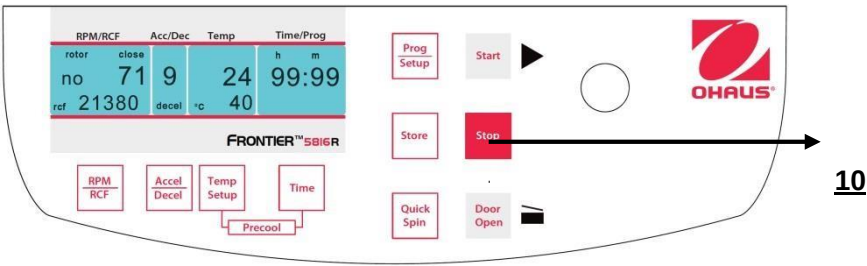

Figure. 30
By the "Stop" key (10) (See figure 30) you can interrupt the run at any time. After pressing the key the centrifuge decelerates with the respective pre-selected intensity down to stand still.